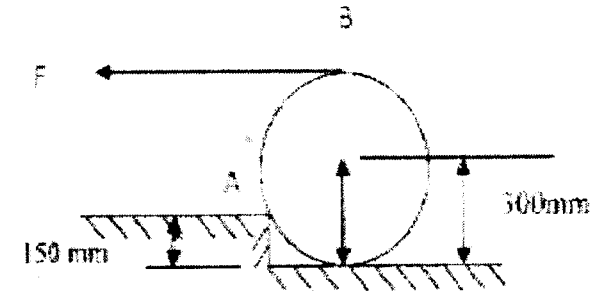

Fig.1
- a) A roller of radius $r = 300$ mm and weighing 2000 N is to be pulled over a curb of height 150 mm [fig.1] by horizontal force F applied to the end of a string wound tightly around the circumference of the roller. Find the magnitude of F required to start the roller move over the curb. What is the least F through the center of the roller to just turn it over the curb?